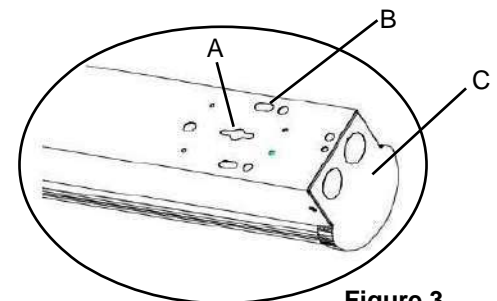

Figure 3
Step3: Fix the luminaire onto the ceiling by the self-tapping screws, slide into key hole slots on the top side of the luminaire base. (figure 3 A)
Step1: Mount V-hooks to the luminaire (Figure 3 B)
1. DIP switches are located onto the side of the fixture. (see Fig.3)
2. Select a wattage and color temperature by sliding switch left or right respectively to the desired value. (see Fig.3 A)